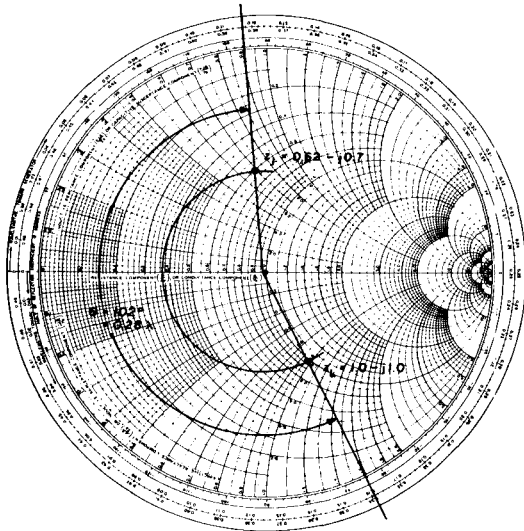

fig. 7. Using the Smith chart to find input impedance (example 3).
**Example 3.** Finding input impedance. A 50-ohm transmission line 20 feet long is terminated with  $Z_L = 50 - j50$  ohms. What is the input impedance at the sending end of the line at 14.1 MHz? (See **fig. 7.**)